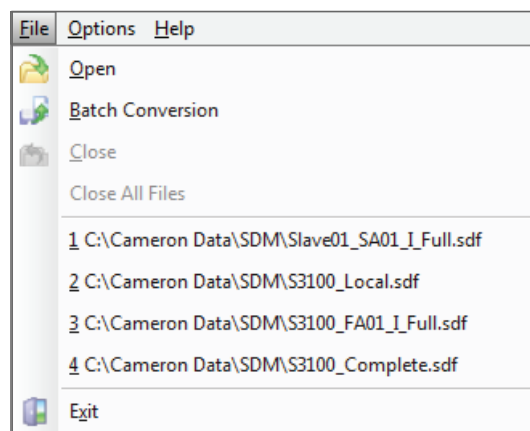
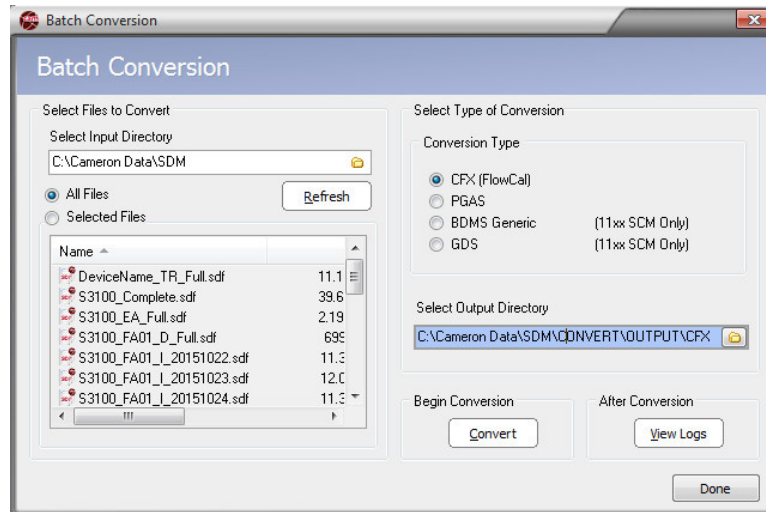

Figure 5.7—File>Batch Conversion
Figure 5.8—Batch Conversion dialog
- Output files that are successfully converted are stored in the user-defined directory that is entered on the *Batch Conversion* screen (see Figure 5.8, page 61).
2. Choose **File>Batch Conversion** from the main screen (Figure 5.7). The *Batch Conversion* dialog will appear (Figure 5.8, page 61).